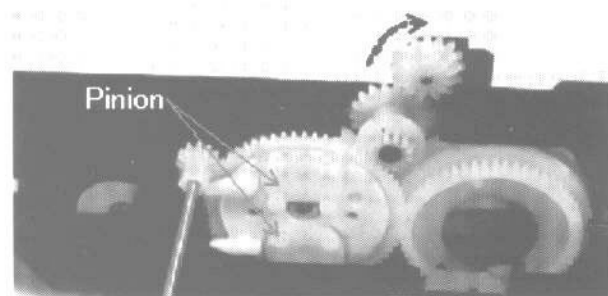

Fig.8
A) First insert CARRIAGE 30(63) between ARM(44) and TURN TABLE and set it until inside end. Push SLIDER 2(36) block down and slide it until inside end. CARRIAGE is locked with ARM.
- 1) Turn GEAR IDLER 2(17) clockwise. The lower PINION in GEAR SUPPORT turns anti-clockwise. After it stops, the upper PINION turns clockwise. Just before the lower PINION starts to turn, stop to turn GEAR IDLER 2. Set CARRIAGE 20(62) as fitting it with the lower PINION as Fig. 8.
- 6) After all CARRIAGES are set, turn DRAWER block upside-down. Insert FFC(75) straight into CONNECTOR(73) of CONNECTOR PC BOARD(70) with a pair of tweezers. Take care not to damage the Cable. (You may insert the Cable after item 9), just after fix the right side.)
- 7) In assembly of the left side of CHASSIS, GEAR IDLER A(39) has a direction.(See Fig.8) Set it as its marking faced to the front. (If it doesn't have any marking, no need to take care of direction.)